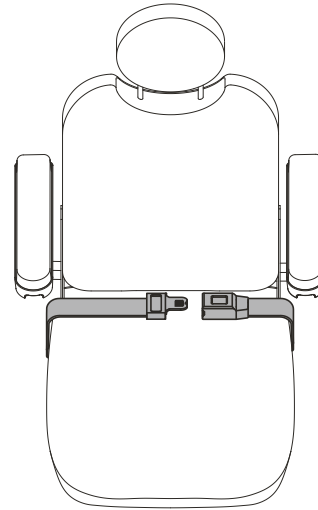

Figure 7. Positioning Belt Adjustment
Your power chair may be equipped with a positioning belt that can be adjusted for operator comfort. **See figure 7.** The positioning belt is designed to support the operator so that he/she does not slide down or forward in the seat. The positioning belt is not designed for use as a restraining device.
1. Once seated, insert the metal tab on the side of the belt into the plastic housing on the opposite side until you hear a click. **See figure 7.**